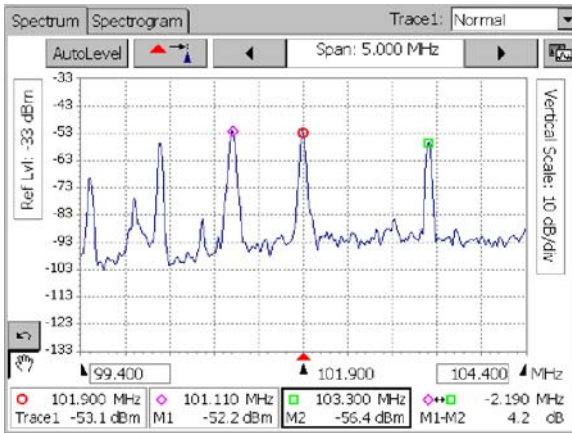

Figure 3-1: A typical Spectrum display with markers
There are several buttons located in the Spectrum area display. Figure 3-1 shows a typical spectrum display (with Interference option installed).
6.  Tap the **Spectrum** button. See Figure 3-1 for a typical spectrum display.